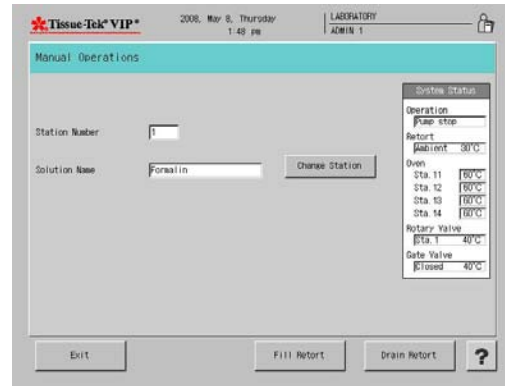

Figure 3-HH
- A Manual Operations screen displays (Figure 3-HH).